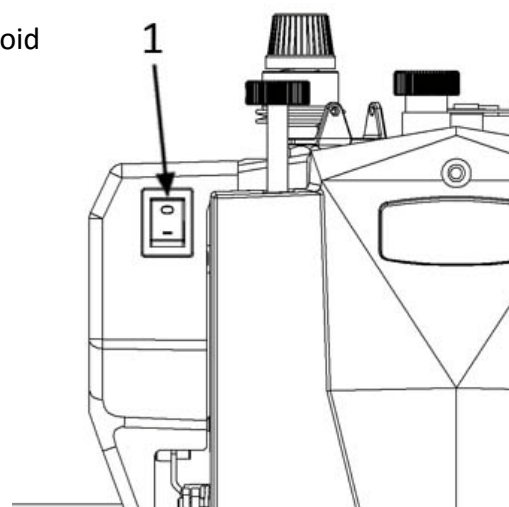

Fig. 34
Use the button (1) on the cover of solenoid for turning ON/OFF, Fig. 34.